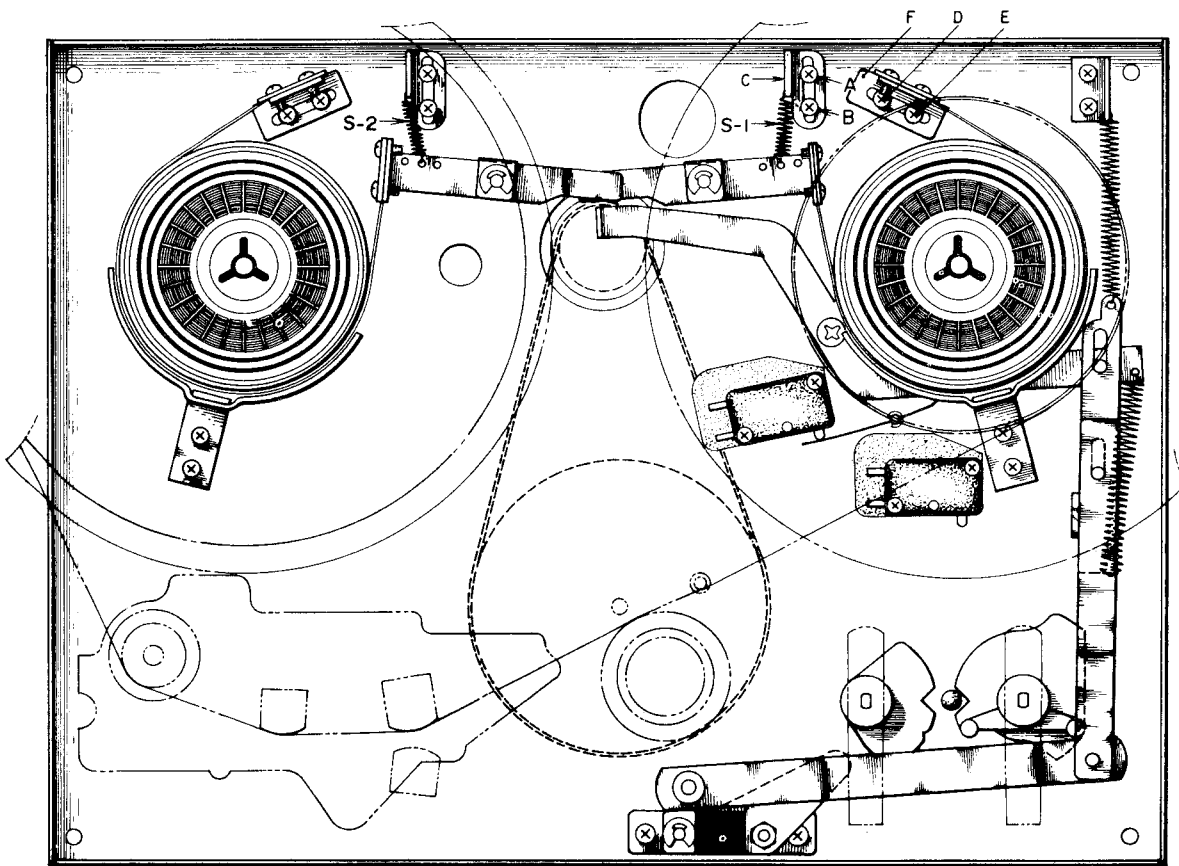

Fig. 8
## 5. BRAKE TENSION ADJUSTMENT (See Fig. 8)
For Brake Tension Measurement, use a 60 mm tape wound on a 5" reel and measure with a Tension Gauge. Standard tension is 280 to 330 grams. Adjust Brake Tension by changing position of suspended springs (S 1 and S 2 in Fig. 8), loosening screws (A) and (B) and changing position of spring suspension metal (C), or loosening screws (D) (E) and changing position of F. Caution: Following Brake Adjustment, confirm that the Brake Band does not touch the cloth tape on brake drum.